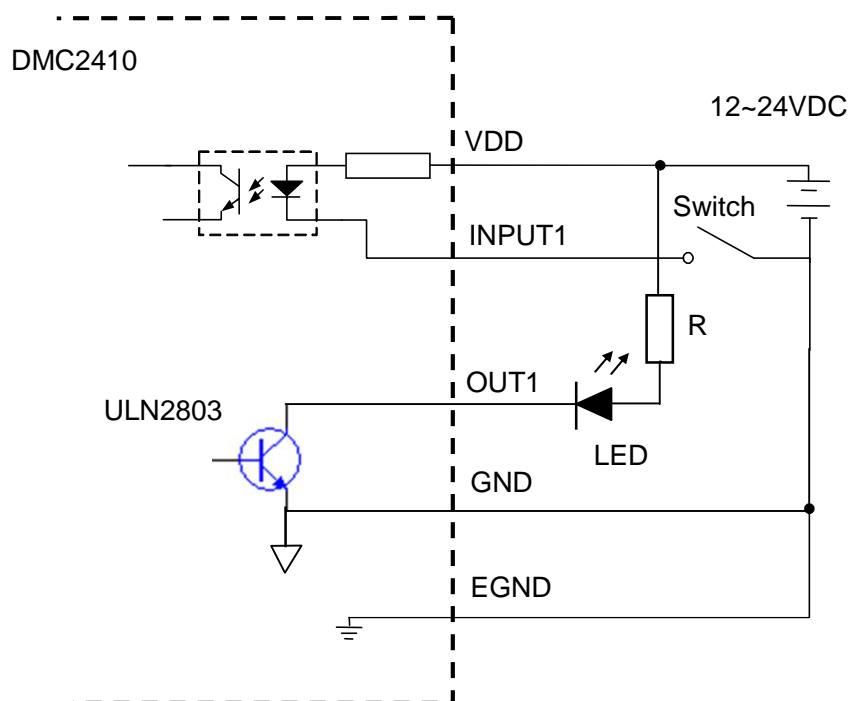

Figure 4-15 Using a switch control a LED
**Example:** Using a switch control a LED, the circuit diagram is shown as Figure 4-15.